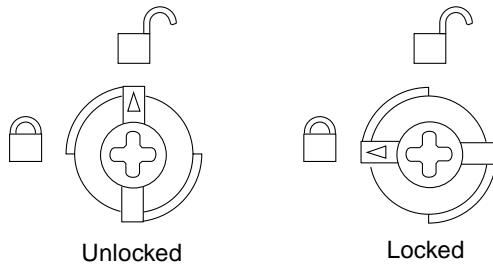
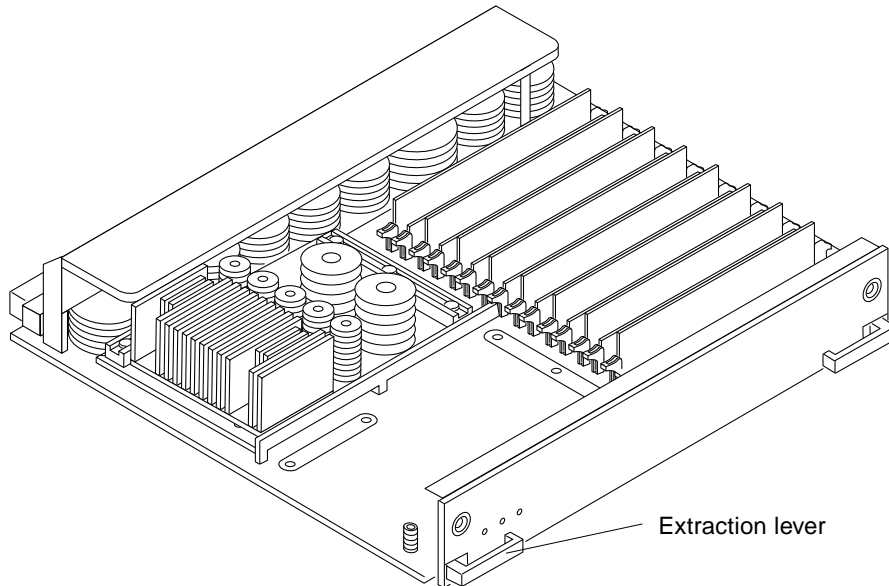

FIGURE 3-3 Unlocking and Locking Quarter-Turn Access Slots
FIGURE 3-4 CPU/Memory+ Board
Insert the screwdriver into each quarter-turn access slot (the slots are on the left and right sides of the board) and turn the arrow to the unlocked position (FIGURE 3-3).
- 3. Pull the ends of both extraction levers outward simultaneously to unseat the board centerplane connector from the centerplane receptacles (FIGURE 3-4).**
Insert the screwdriver into each quarter-turn access slot (the slots are located on the left and right sides of the board front panel) and then turn a quarter turn so that the arrow points to the unlocked position (FIGURE 3-3).
2. Pull the ends of both extraction levers outward simultaneously to release the board from the centerplane receptacles (FIGURE 3-4).
2. Ensure that both extraction levers are in the insert position (arrow pointing outward), and that the quarter-turn access slots are unlocked (arrow indicates unlocked position) as you slide the board toward the centerplane receptacles (FIGURE 3-3 and FIGURE 3-4).
- 4. Mechanically lock the board to the system chassis by inserting a Phillips #1 screwdriver into each quarter-turn access slot and then turning to the locked position (FIGURE 3-3).**